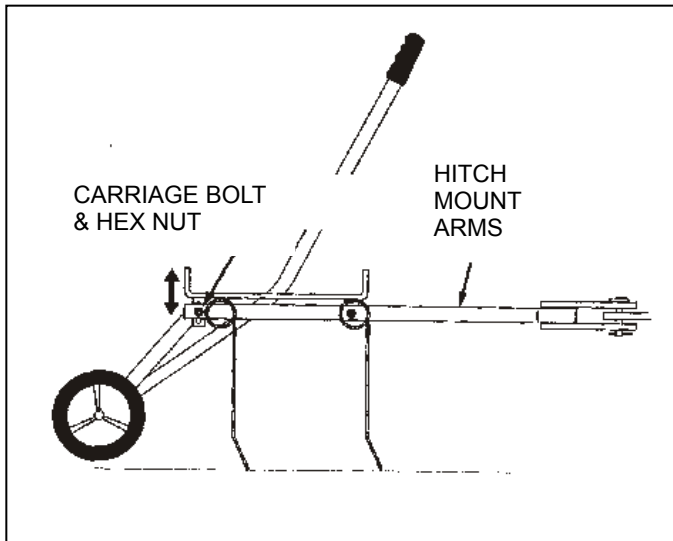

FIGURE 10
1. Move the towing vehicle onto a level surface, such as a driveway or garage floor and attach the tine de-thatcher to the vehicle hitch. See figure 10.
2. To adjust the spring tine shield, lower the de-thatcher into operating position using the lift handle. Loosen the two hex nuts and carriage bolts which fasten the rear of the hitch mount arm to the hitch arm mount brackets. Adjust the tin shield until it is level and both the front and rear spring tines are in contact with the ground. Re-tighten the hex nuts. See figure 10.